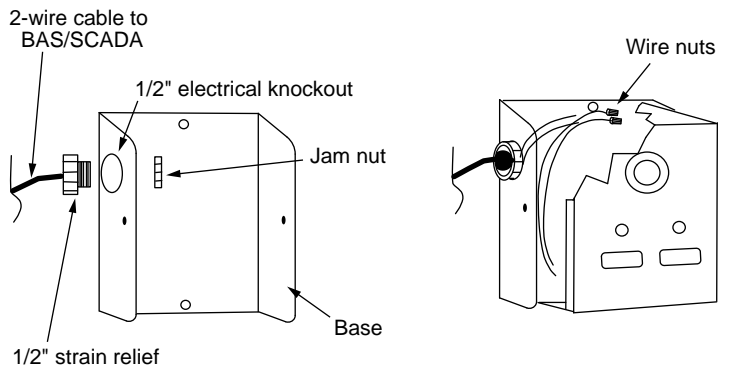

FIGURE 9
12. If auxiliary contacts (Figure 10) are used, remove the cover from the base, then remove the 1/2" electrical knockout (Figure 9).
13. Using 16 - 2 AWG stranded wire, route all wires into the alarm base (Figure 9). **CAUTION:** Keep wires away from sharp objects and internal components. **NOTE:** Leave at least 6" of wire inside of enclosure.
14. Install a 1/2" strain relief with jam nut, then connect the wires for the required application using wire nuts (Figure 9).